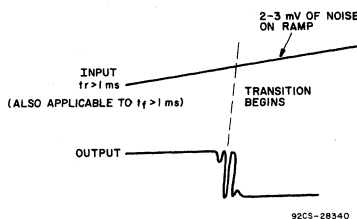

Fig. 9 — Buffered output oscillation for a slow input.
**Output Oscillation for Slow Inputs**—The high linear-mode gain of buffered CMOS devices can lead to undesirable oscillation at outputs when input ramps are in excess of approximately 1 millisecond duration. Fig. 9 illus-